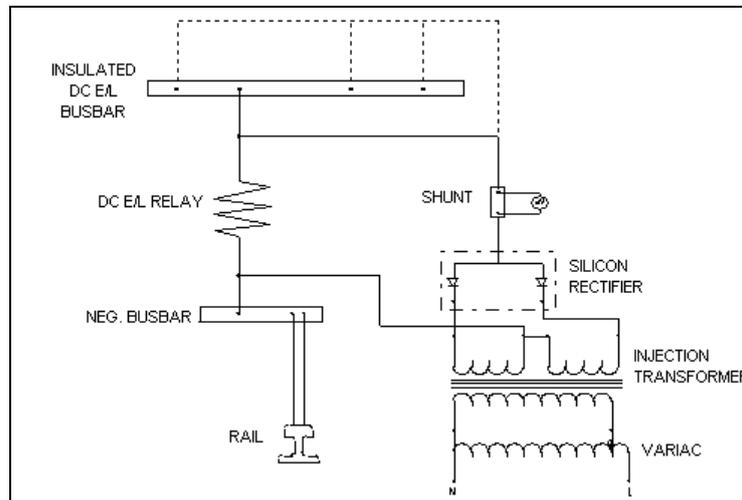

Figure 9.2: Circuit Diagram for Testing DC E/L Protection
- 1 Inject DC current through the DC earth leakage relay as shown in Figure 9.2 by using a 250 Volt AC / DC Injection Test Set and slowly increasing the current from zero. Note the setting and trip current.